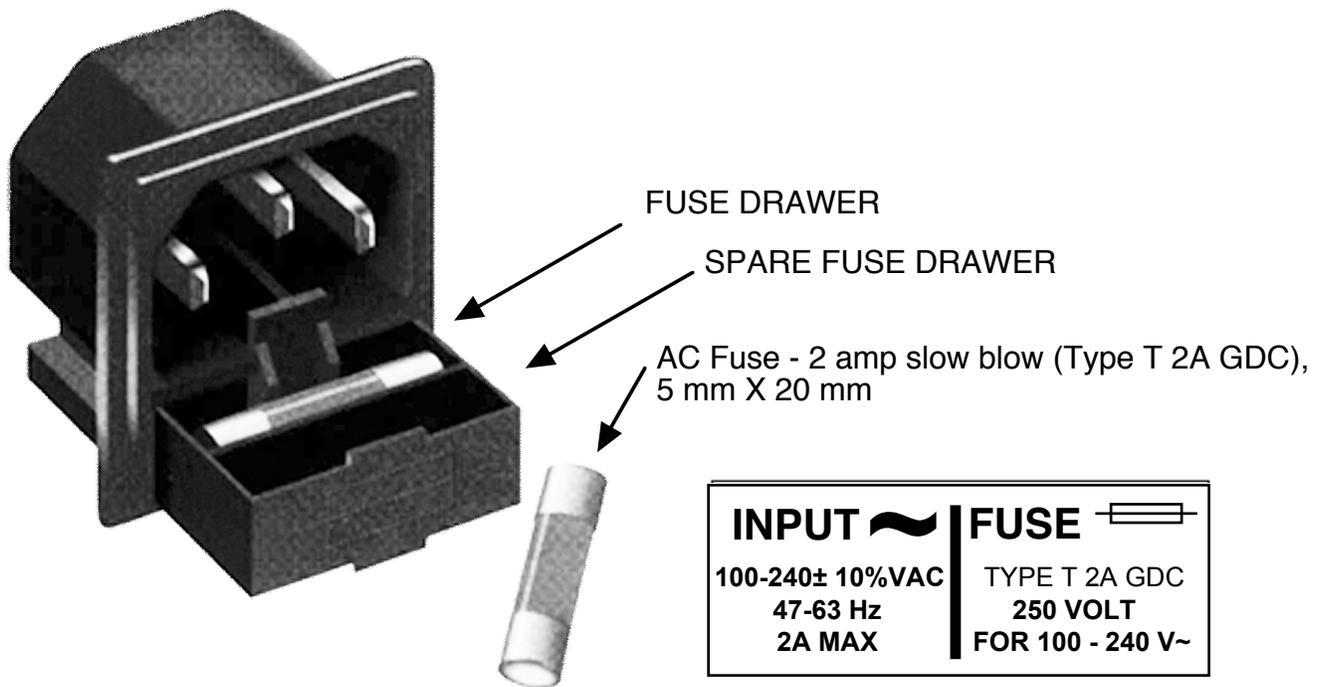

**FIGURE 2.2 2116-222 Front Panel Controls and Indicators**
Figure 2.2 shows the front panel indicators.
4. Be sure DS1 (green, DC Power) is on and DS2 (red, Alarm) is off (Figure 2.2).
6. If EXT is selected or AUTO is selected and there is a 10MHz, 3 dBm signal at J2, check that DS3 (yellow, Ext 10MHZ) is on (Figure 2.2).